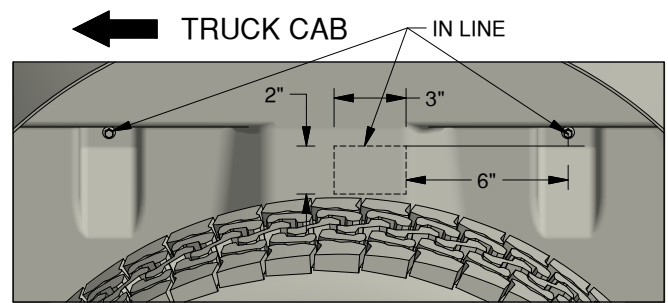

Figure F1.
1. **Modify the driver side fender liner if needed.** If the driver side fender liner was removed earlier it will need to be modified by cutting an access hole for the latch pin handle. Cut a 3" x 2" rectangle which has its top edge aligned with the two mounting holes and is roughly 6" forward of the rear mounting hole, see Figure F1. Loosely install the fender liner back into the wheel well.